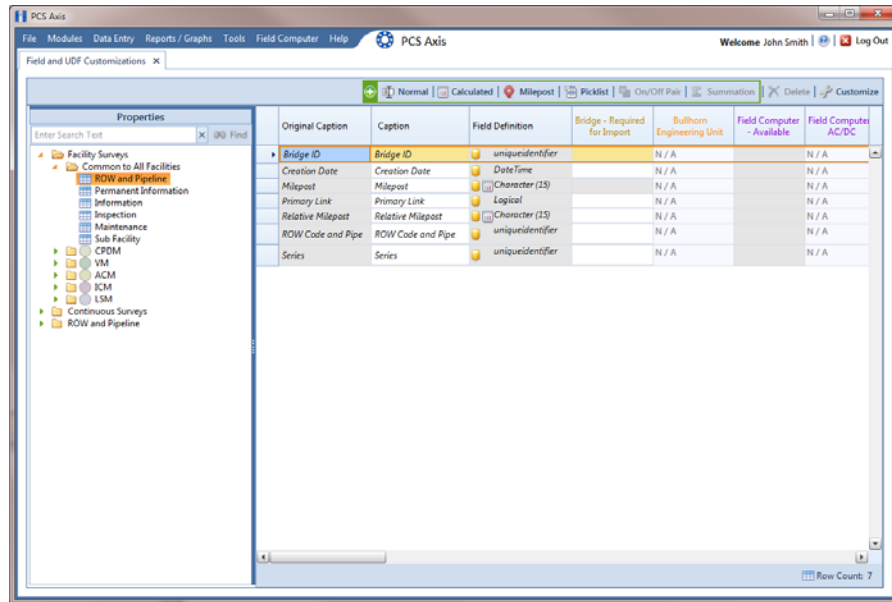

Figure 10-1. Field and UDF Customizations
- 1 Click **Tools** > **Field and UDF Customizations** to open the *Field and UDF Customizations* window (Figure 10-1, page 457).